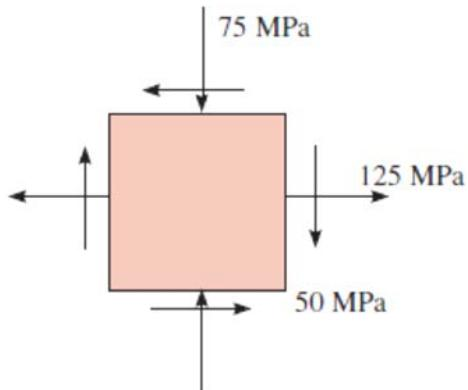

Figure Q5
- Q5.** As shown in Figure Q5, determine the equivalent state of stress on an element at the same point which represents (a) the principal stress and (b) the maximum in-plane shear stress and the associated average normal stress. Also, for each case, determine the corresponding orientation of the element with respect to the element shown. Sketch the results on each element.